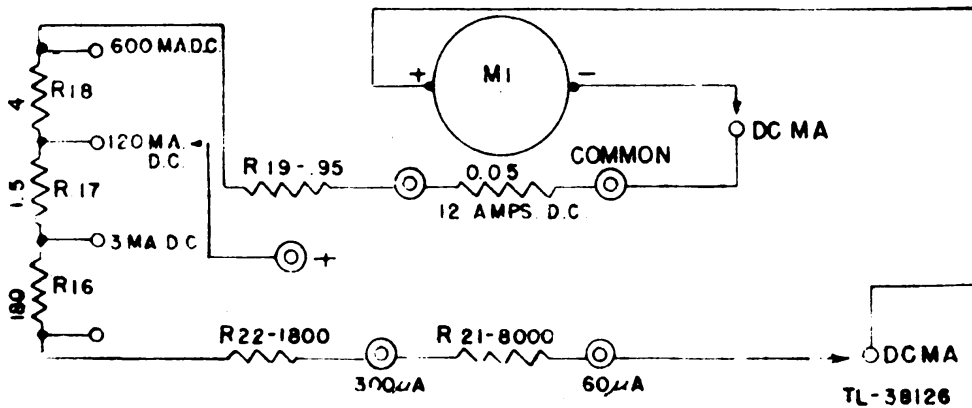

Figure 11. Test Set I-179, simplified D.C. amps circuit.
15. TEST SET I-179 AS A D-C MILLIAMMETER (fig. 11).